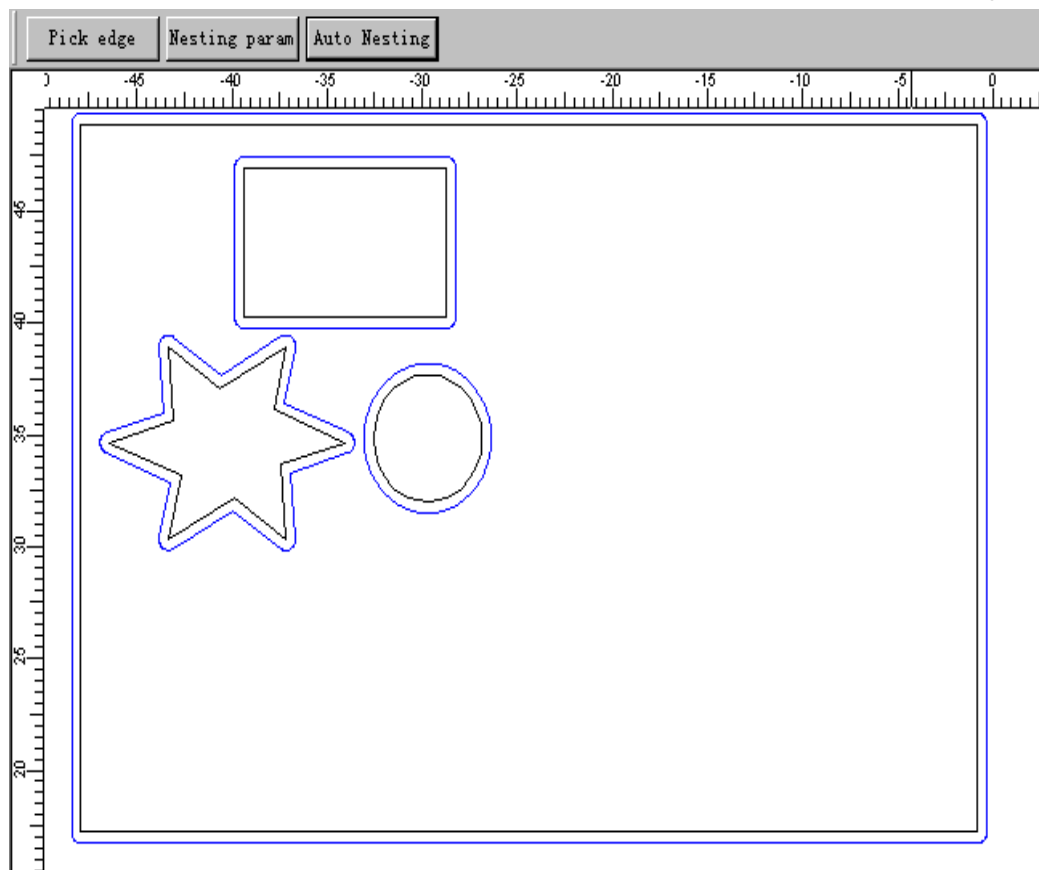

Figure 7-1 Nesting multi part
Step 1. Draw the figures need to nest and the border that contain the figures, and then click the menuitem **Special—Nesting—Nesting multi part**. The interface will be showed as Figure 7-1